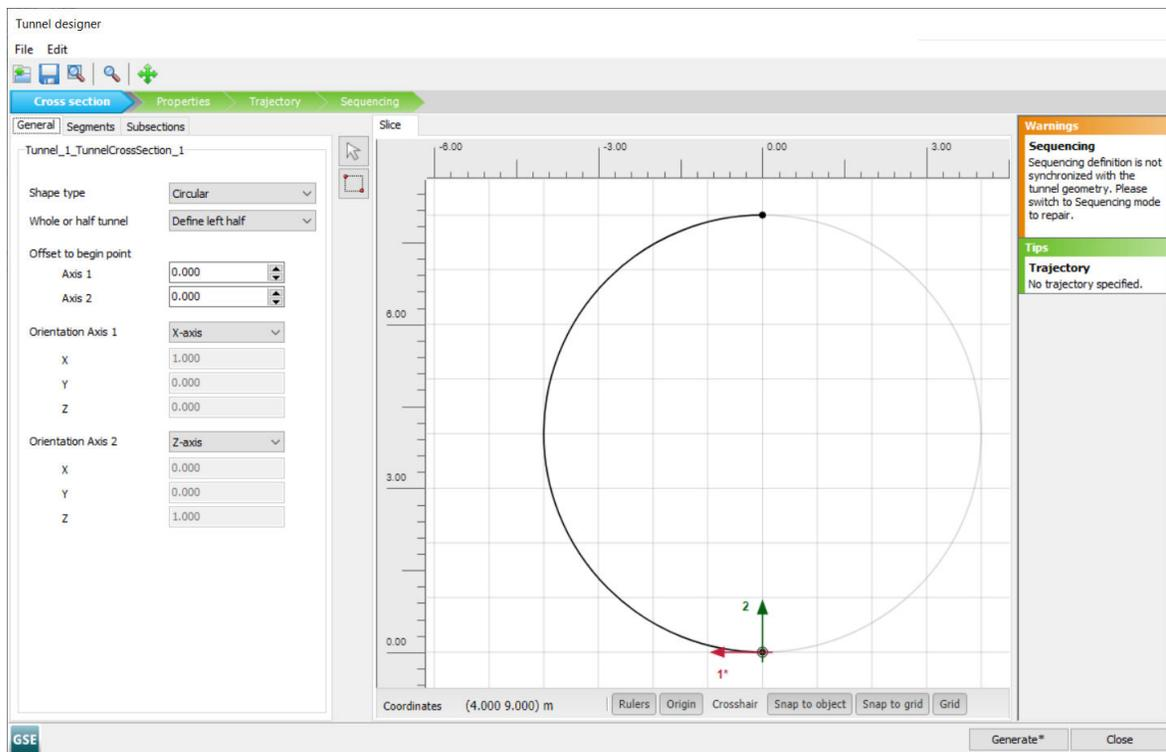

Figure 62: General tabsheet of the Tunnel designer
6. The left half of the tunnel is generated in this example. Select the **Define left half** option in the drop-down menu for the *Whole or half tunnel*. A screenshot of the **General** tabsheet after the proper assignment is given in Figure 62 (on page 88).